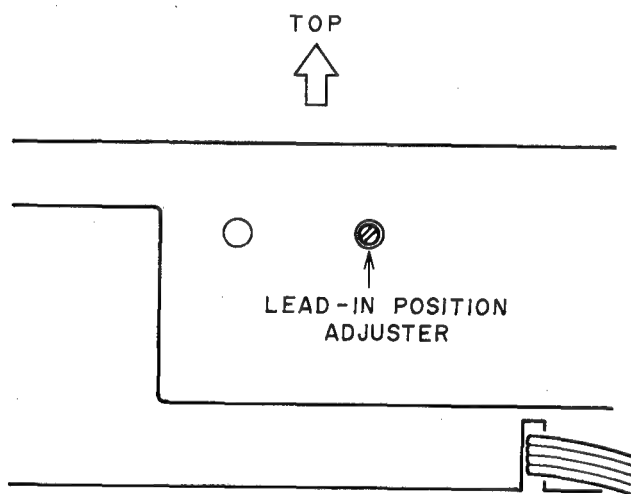

Fig. 6-4 Rear View
#### 6-5 LEAD-IN POSITION ADJUSTMENT (Refer to Fig. 6-4)
- 3) If this Lead-in position is incorrect, it can be adjusted by turning the Lead-in Position Adjuster shown in Fig. 6-4 clockwise or counter-clockwise with a flat type screw-driver.